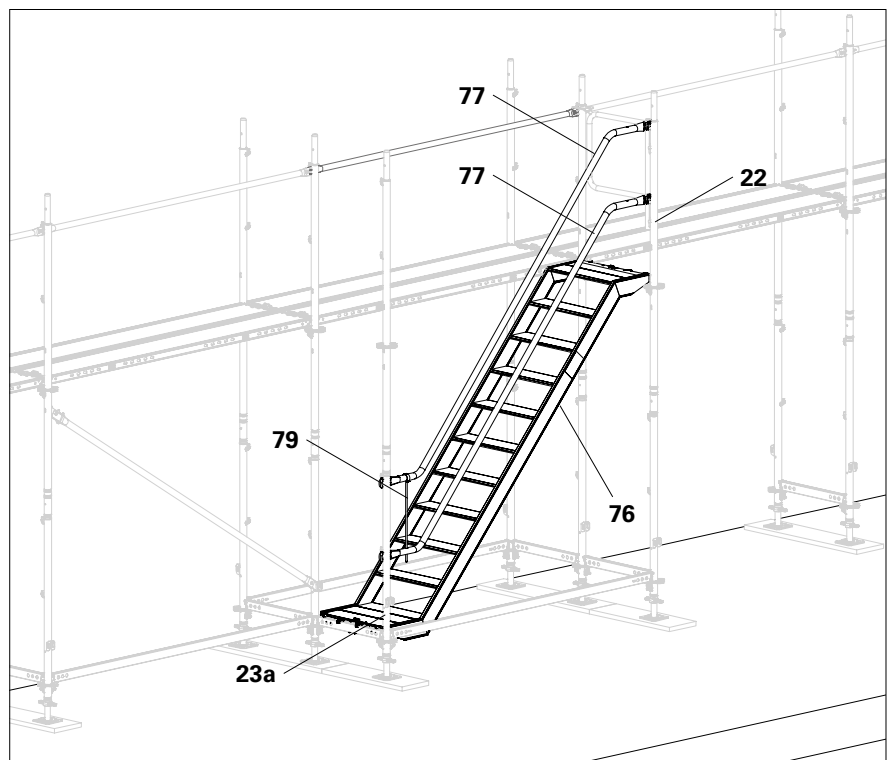

Fig. B8.04
5. Fit two Stair Guardrails EAG (77) between the Easy standard (22) and base standard (23a). See Section "Stair Guardrails EAG" on page 23.
6. At the step at the bottom, connect both Stair Guardrails EAG (77) with Locking Pin EAG (79). To do so, insert the locking pin through the holes of the guardrail posts.
7. Attach Stair Tower UAS/EAS (76) firstly to the top Horizontal Ledger UH-2 67 and then to the bottom one.
- (Fig. B8.04)